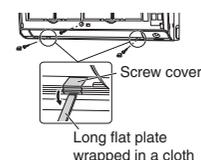

Fig.2
- 3) Remove screw covers (2 pcs.)\*. (See Fig.2)
- 4) Remove the front grille fixing screws (3 screws)\*. (See Fig.2)